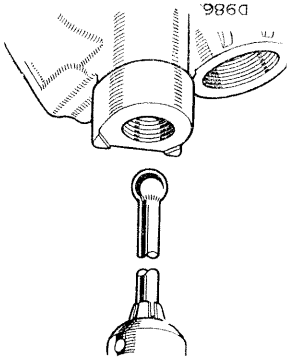

Fig. AO-7—Oil pump ball valve lapping tool
8. Solder a new ball bearing (Part No. 3748) on to the end of a suitable length of tubing, as shown in Fig. AO-7.